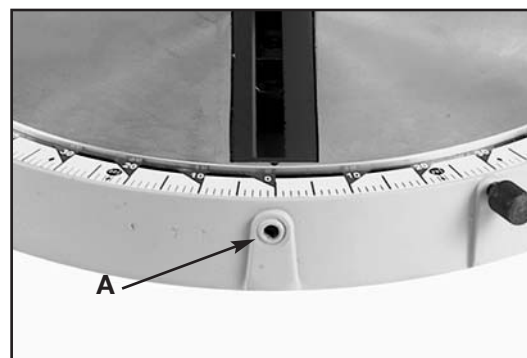

Fig. 26
The rotating table has positive stops at the 90 degree straight cut-off position and 22-1/2, 30, and 45 degree right and left miter positions. To adjust the spring pressure of the positive stops, tighten or loosen screw (A) Fig. 26.
**NOTE:** Do not over-tighten the screw. (A) so that the table becomes difficult to rotate.